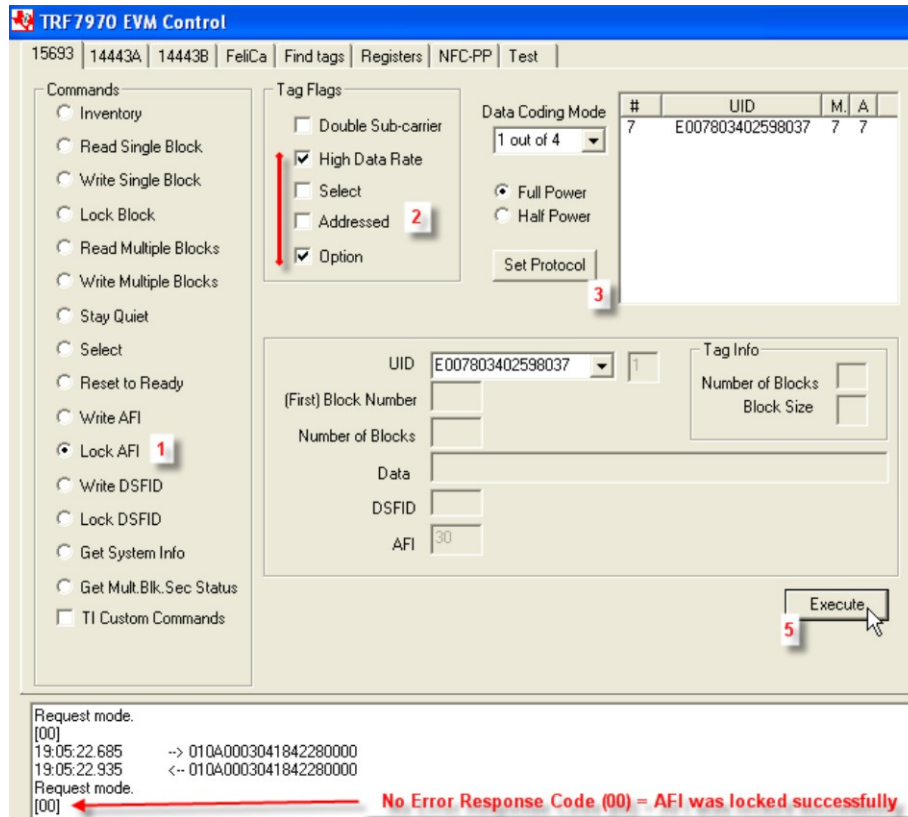

Figure 15. Lock AFI Command Example
2. Select Tag Flags accordingly (see Figure 15 for one example, note use of option flag).